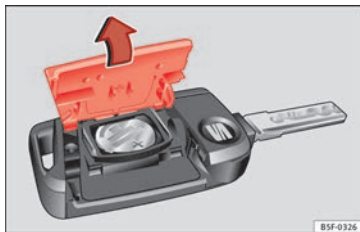

Fig. 135 Vehicle key: opening the battery compartment.
- Remove the cover from the back of the vehicle key **» Fig. 135** in the direction of the arrow **» ①.**
- Fit the cover as shown **» Fig. 135**, pressing it onto the vehicle key casing in the opposite direction to that shown by the arrow until it clicks into place.